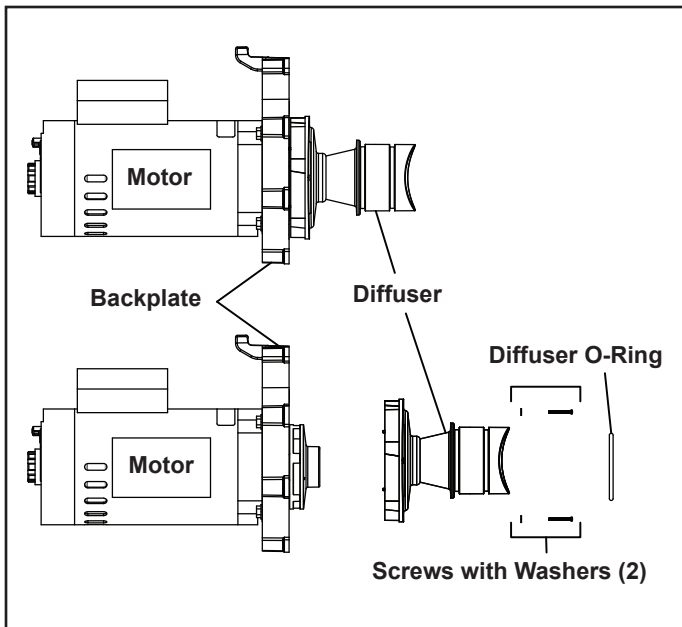

Figure 4. Remove the Diffuser
5. Using a No. 1 Phillips screwdriver, remove the two (2) screws holding the diffuser. (The diffuser is the cover over the impeller). Then remove the diffuser. See Figure 4.